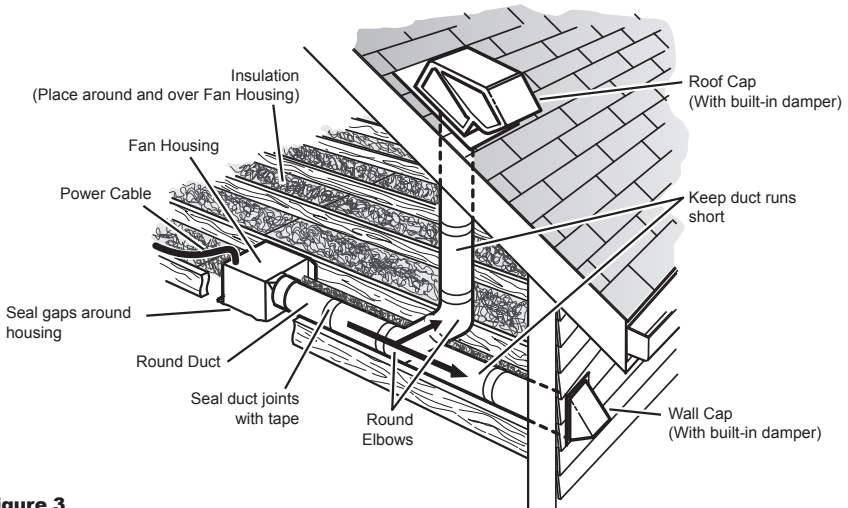

Figure 3
5. These fans are not recommended for cooking exhaust applications. They are designed primarily for low temperature, clean air applications only. Figure 3, page 5 shows the minimum distance these fans should be placed in relation to cooking equipment.